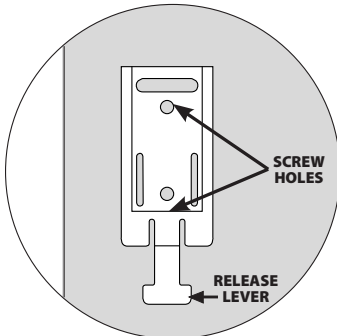

Fig. 26 - Chair/Wall Bracket (Front View)
2. Use the wall/chair bracket (Cat. No. 8301, see Fig. 26).
- i. Place one (1) strip of the included hook-and-loop on the flush side of the main bracket.
- i. Position the wall-mounting bracket with the flat side against the wall (see Fig. 26).